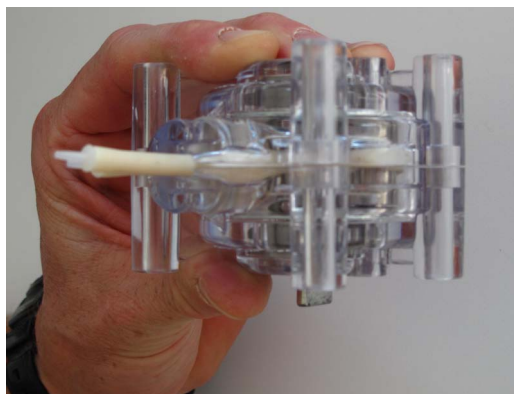

Fig. 5-22: Pressing together the two halves of the pump head
- 22** Align the two halves of the pump head and then press them together. See Fig. 5-22, 89.